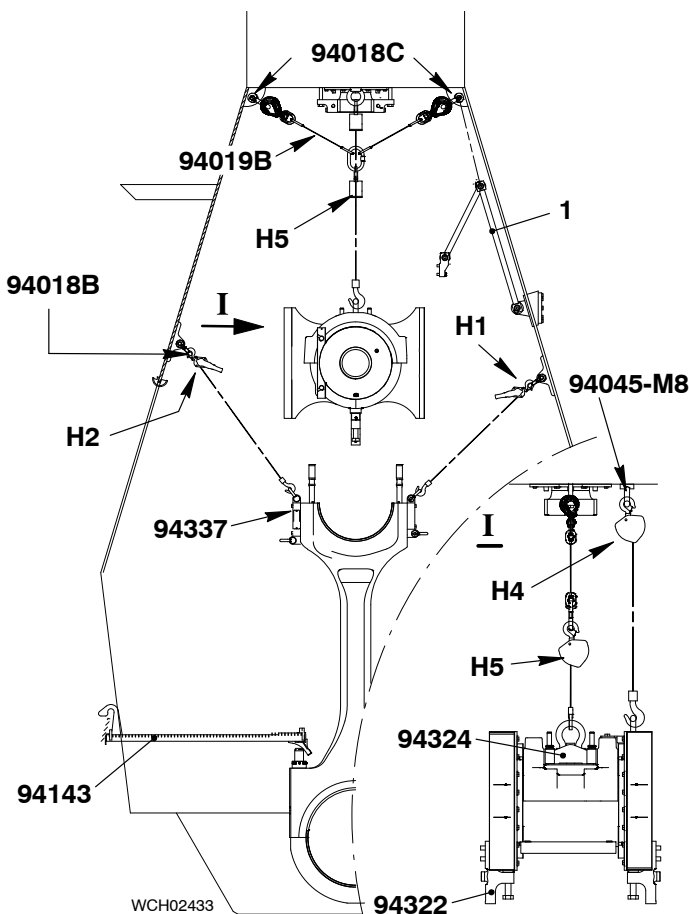

Fig. 8
- 12) Attach the manual ratchet (H2, Fig. 8) to the lifting tool (94337).
- 15) Make sure that there is tension on the chain blocks (H4 and H5, Fig. 8).
- 18) Connect the toggle lever (1) to the connection piece.